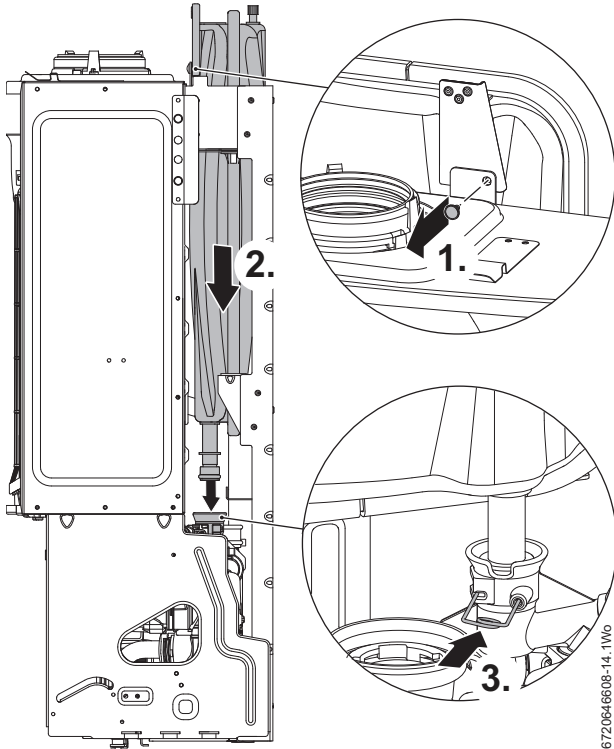

Fig. 34 Expansion vessel connection
1. Release the expansion vessel from the retaining bracket, see fig 34.
2. Ensure that the wire retaining clip on the pump manifold is fully withdrawn, but do not remove, before inserting the expansion vessel pipe into pump manifold, see fig. 34.